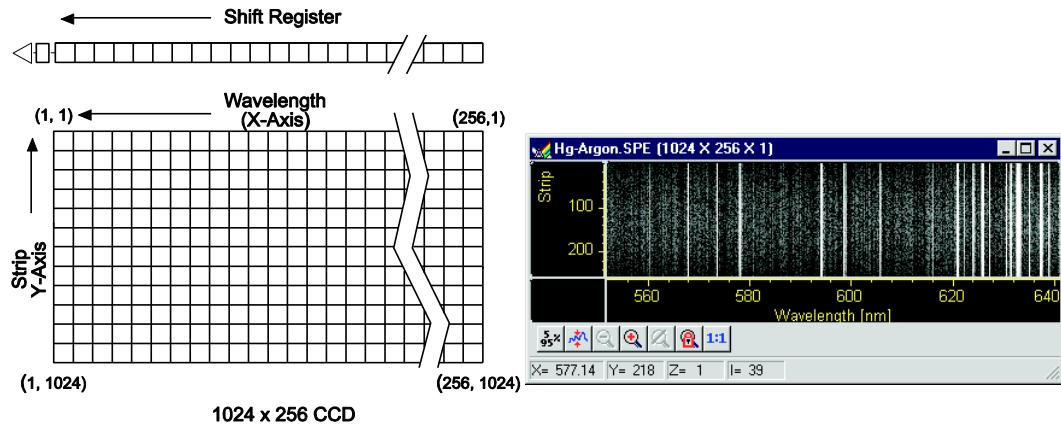

Figure 124. Assumed CCD Array Orientation
2. References to X and Y axes assume that the shift register is parallel to the X-axis and that the data is shifted to the shift register in the Y direction. See Figure 124 below.